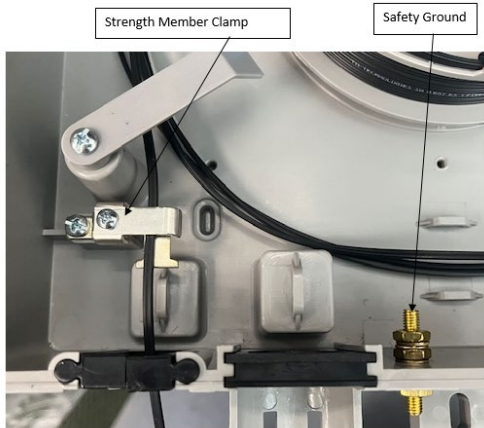

Figure 4
5. Secure the jacketed cable using the strength member clamp (Figure 4).
6. If a tracer wire is being used, connect it to the internal Ground stud and connect AC Safety ground to the external Ground stud (Figure 4).